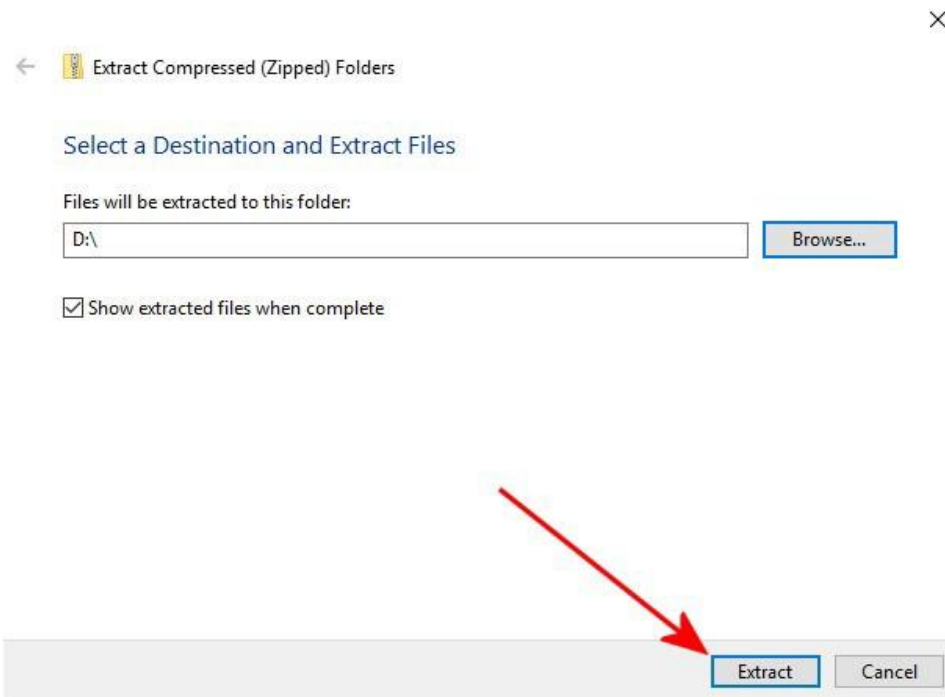

Figure 4
4) Select the USB-C stick as the destination (Figure 4)